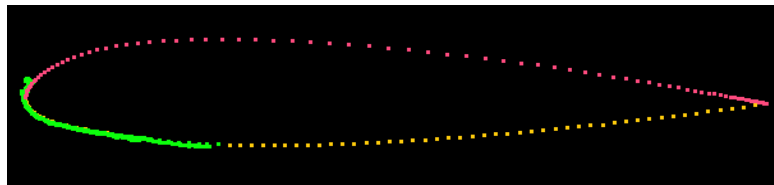

Figure 8. Redistributed points on upper surface of airfoil.
- If you would like to replace the current points with the modified points, press **Apply**. To close the window without making the changes permanent, press **Close**. Pressing **OK** will apply the changes and close the window all at once. Your geometry should now look like that in Figure 8.